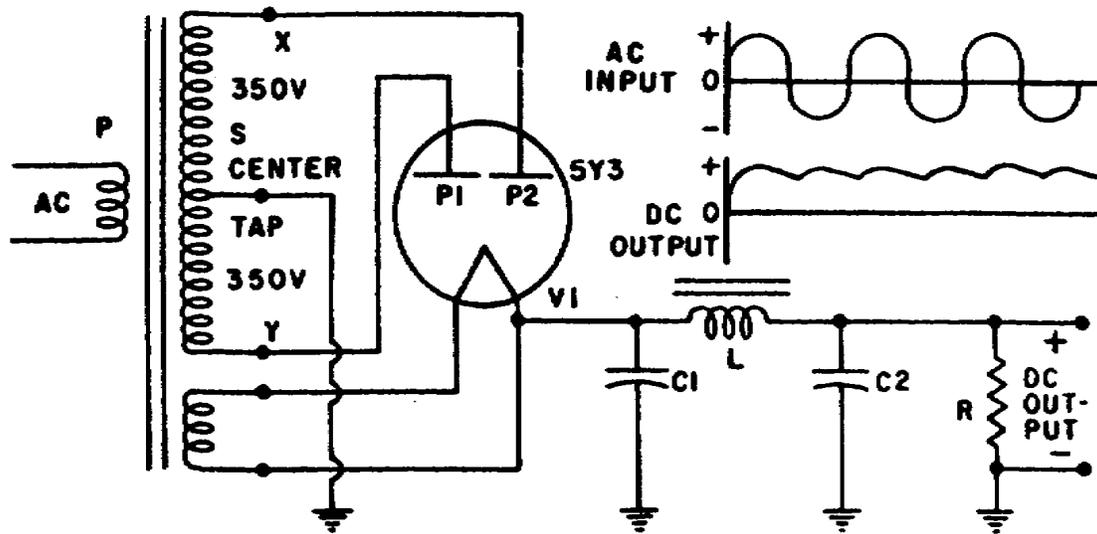

Figure 92. Full-wave rectifier.
16. In a full-wave rectifier circuit, two diodes may be used. However, in many applications, the two diodes are included in one envelope and the tube is referred to as a duo-diode. A typical example of a full-wave rectifier circuit is shown in figure 92. In this circuit a duo-diode is used, and the transformer's secondary winding has a center tap. Notice that the center tap current is turned to ground and then through R and inductor L to the cathode (filament) of V1. The voltage appearing across X and Y is 700 volts a.c. The center tap is at zero potential with 350 volts on each side.
18. During the other half-cycle, P₁ will be negative and nonconducting while P₂ will be positive and conducting. Therefore, since the two plates take turns in their operation, one plate is always conducting. Current flows through the load resistor in the same direction during both halves of the cycle, which is called full-wave rectification. The circuit shown in figure 92 is the basis for all a.c. operated power supplies that furnish d.c. voltages for electronic equipment. Notice that the heater voltage for the duo-diode is taken from a special secondary winding on the transformer.